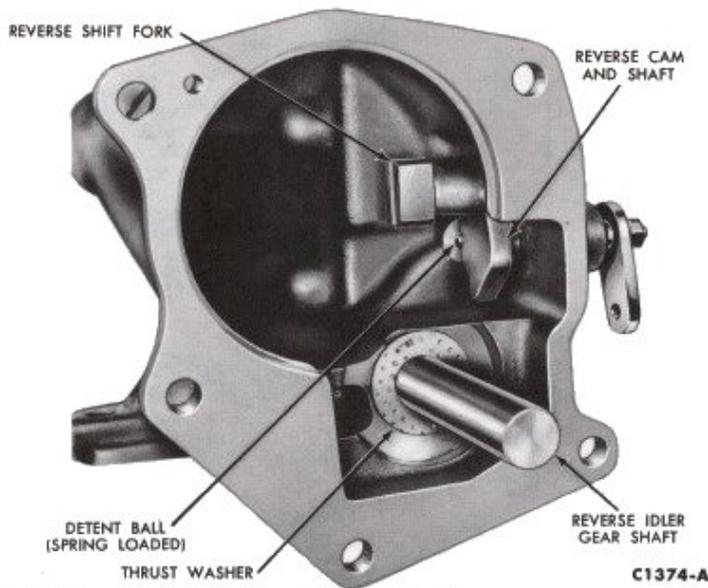

FIG. 8—Reverse Idler Shaft and Shift Mechanism
5. Remove the extension-to-case attaching bolts (Fig. 7). Tap the extension housing with a soft hammer to free it from the case. Slide the extension housing rearward until the reverse idler shaft (Fig. 8) is clear of the reverse rear idler gear. Rotate the extension housing to the left to clear the reverse shift fork and remove the extension housing.
the shift shaft and cam from the inside. Install the reverse shift lever. Position the reverse shift fork on the reverse shift shaft (Fig. 8).
20. Install the reverse idler gear tanged thrust washer on the idler shaft with the tang gear facing rearward (Fig. 8). Apply heavy grease to retain the washer against the extension housing.
22. Move the reverse shift lever to bring the shift fork to the extreme forward position (Fig. 8). Pull the lever outward so that the reverse fork will clear the reverse gear on assembly. Slide the reverse gear forward on the output shaft until it engages the reverse idler gear.